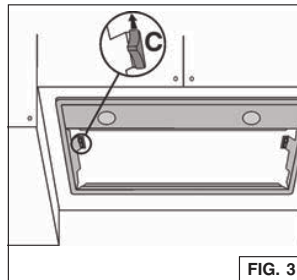

FIG. 3
2. Take the filters support away moving the 2 lateral locks C (Fig. 3).